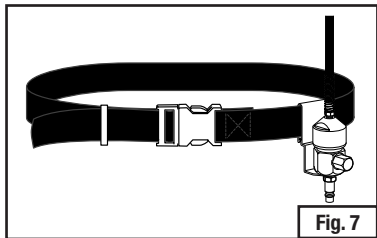

Fig. 7
4. Place the metal belt clip of the air regulator/connector on the belt (Fig. 7).